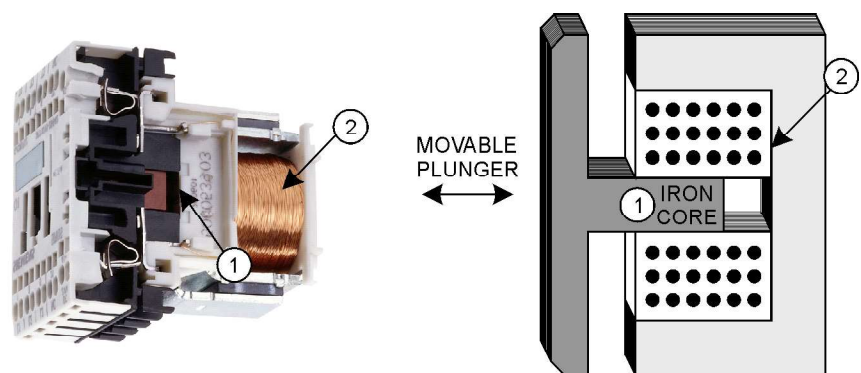

Figure 1-13. Basic magnetic core and coil.
**Solenoids**, such as the one shown in Figure 1-13, are extensively used to operate contactors and control relays. Placing a coil of wire around a soft iron core sets up a magnetic flux. When energized, a **magnetic field** is developed around the coil. A north and a south pole are created and the iron core becomes a temporary magnet. As a result, a moveable plunger is attracted to the coil, and contacts attached to the plunger change state.